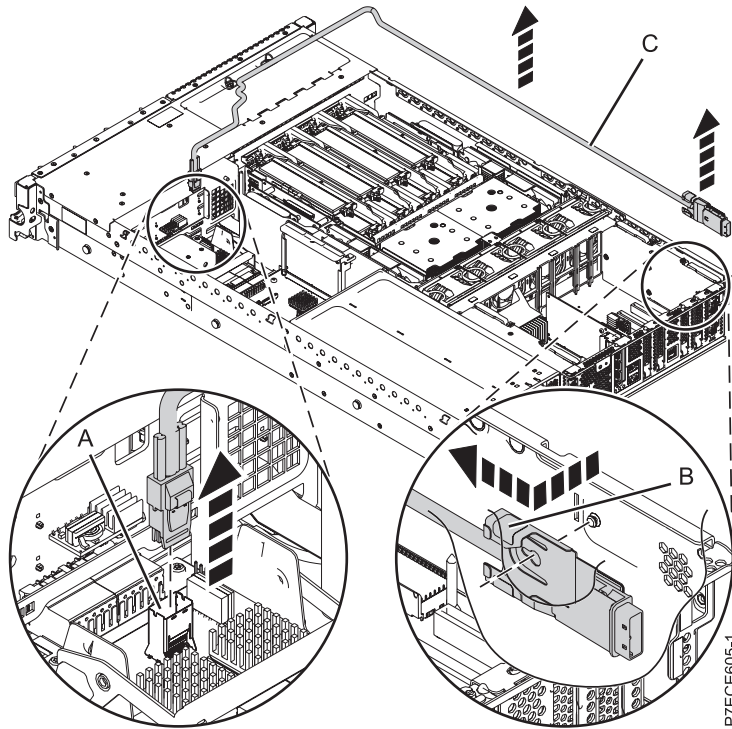

Figure 23. Removing the external SAS port
9. Pull the cable bracket at the blue touch point **(B)** and slide the SAS cable out of the external SAS port opening in the rear of the chassis. See Figure 23 on page 39.